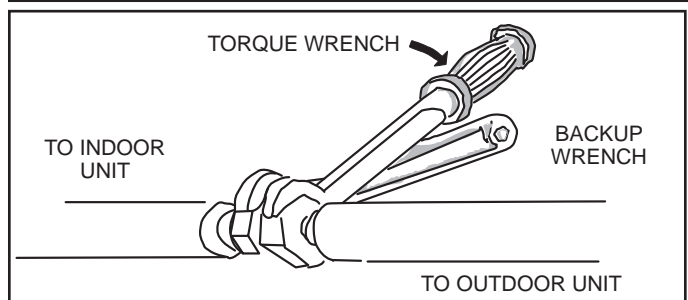
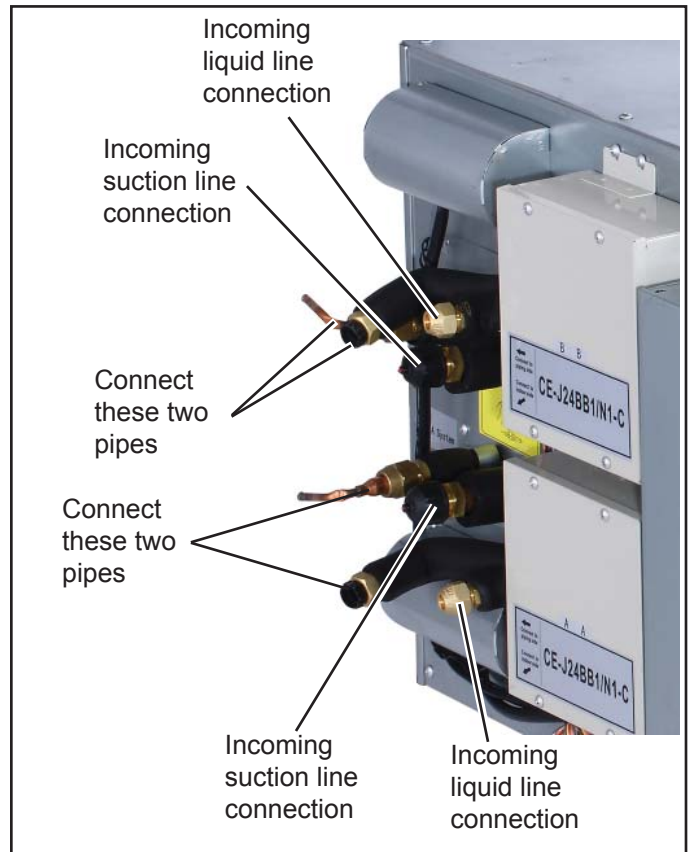

Figure 6. Tighten Flare Nut
Figure 8. VOSA054/072 Refrigerant Connections
7. Once snug, continue another half-turn on each nut which should create a leak-free joint. A torque wrench may be used to tighten flare nuts using Table 2 recommendations. See figure 6. Do not over-tighten a flared joint.
9. Locate the pre-formed copper connector pipes provided in the bag assembly (VOSA054-072 only). These pipes are used to connect the unit piping to the electronic expansion valves. Remove the plastic seal from each end of the pipe. See figure 8.
11. Immediately align the connector pipe with the identified piping in figures 8 & 9. Hand-tighten the flare nuts at first. Then, use two wrenches to continue to tighten the nuts without twisting the pipes. See figure 6. Torque requirements are given in table 2. **Again, do not over-tighten the flared joints.**